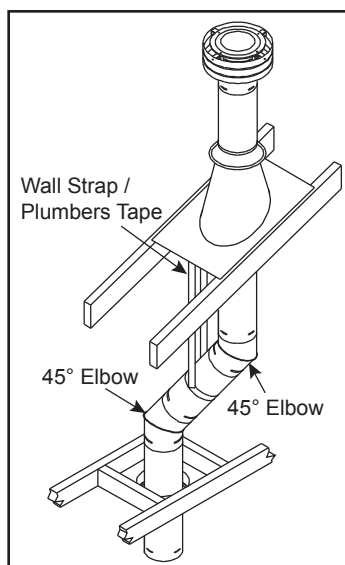

Figure 34
2. If an offset is necessary in the attic to avoid obstructions, it is important to support the vent pipe in order to avoid excessive stress on the elbows. Wall straps or plumber tape may be used for this purpose, Figure 34.